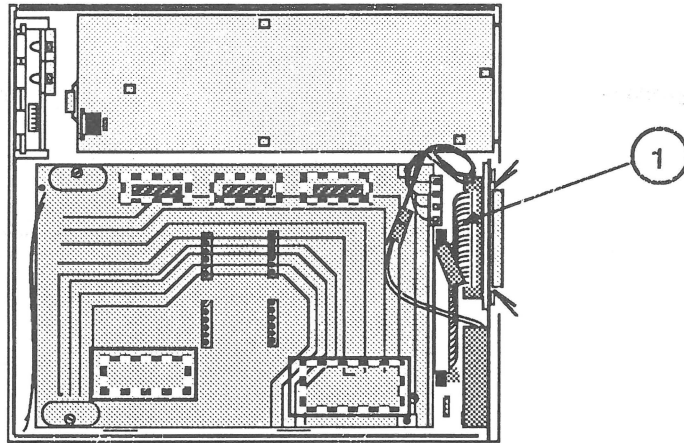

FIGURE 6
5. Connect the SCSI device-to-case cable (Figure 6, #1) to the CD SC drive mechanism and close the end tabs.